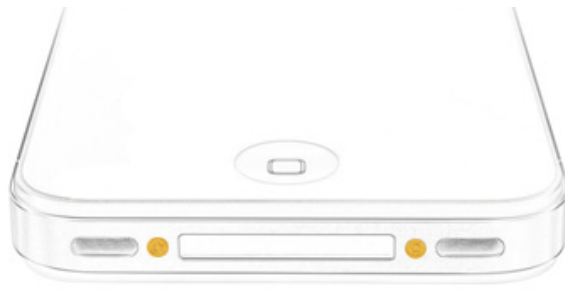

Figure 2
- Now remove the two Phillips screws from the bottom of the phone (as shown in figure 2) using a small Phillips Screwdriver. After the removal of these two screws you can take off the back cover (battery cover) of the phone. Just slide the back cover up a little bit and you will be able to take it off from the phone.